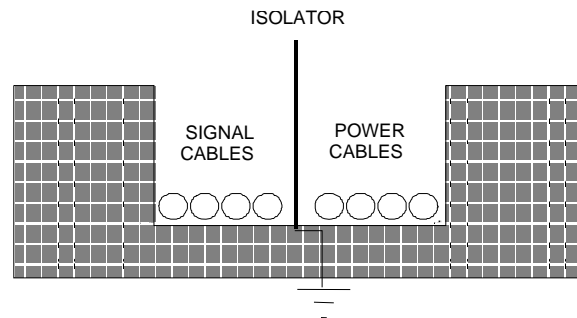

Fig. 9.8 - Separator in Duct and Pit
- 1 - Install a grounded metallic separator as shown in Figure 9.8.